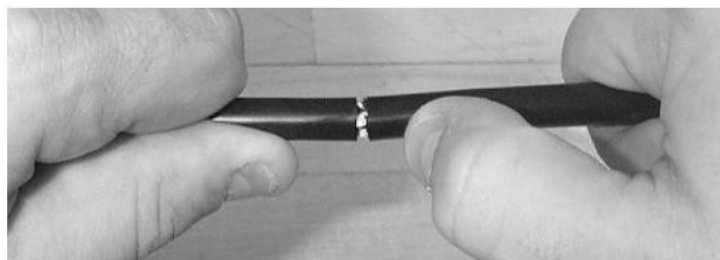

Figure 3 - Flex the cable to separate the sheath
4.3 Gently flex the cable at the ring cut with a circular motion, being careful not to breach the minimum bend diameter. The cable sheath will separate at this point (Figure 3).